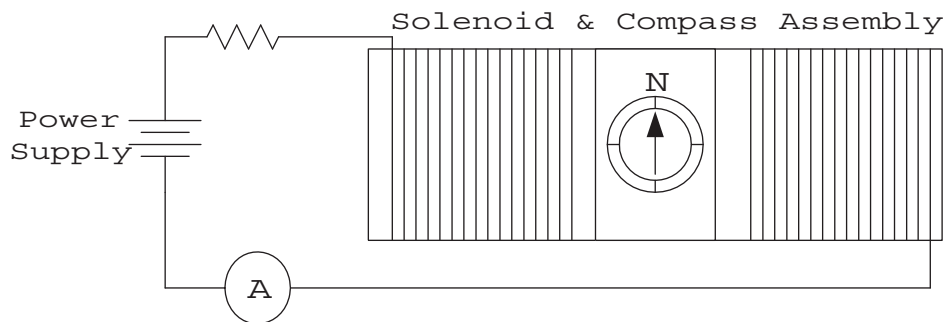
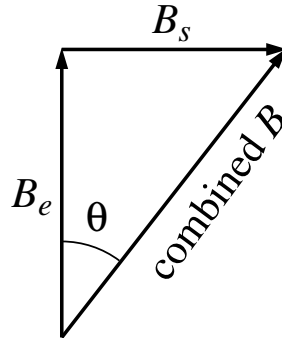

Figure 6.2: Solenoid circuit.
Figure 6.3: Adding two magnetic fields: B_e from the Earth and B_s from the solenoid. The angle of the resulting magnetic field is called θ .
As shown in Figure 6.2, the compass is placed in the center of the solenoid, and the apparatus is oriented so that with no current flowing the compass needle points perpendicular to the coil-axis in the direction “N”, i.e., $\theta = 0$. When a current is sent through the coil, the needle will be deflected to point in the direction of the resulting magnetic field. The current will be supplied by an adjustable power supply, and accurately measured with a digital multimeter. If we denote the magnetic field of the Earth by B_e and the magnetic field of the solenoid by B_s , the resulting total magnetic field should be the vector sum of the two. As shown in Figure 6.3, we predict
1. Position the solenoid/compass assembly so that the compass needle is aligned with north (N) on the compass housing.
2. Without moving the assembly, connect the power supply in series with the assembly and ammeter (initially set to read current up to 200 mA DC) as shown in Fig. 6.2. If you connected the ammeter in a reasonable way, the current values